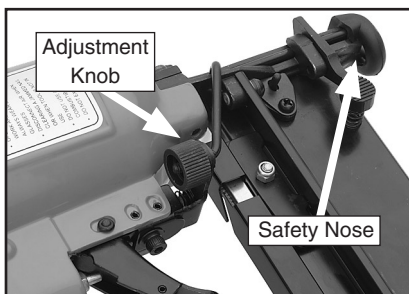

Figure 6. Depth adjustment controls.
2. Rotate the adjustment knob (**Figure 6**) clockwise to drive the nails deeper or counterclockwise to drive the nails shallower.